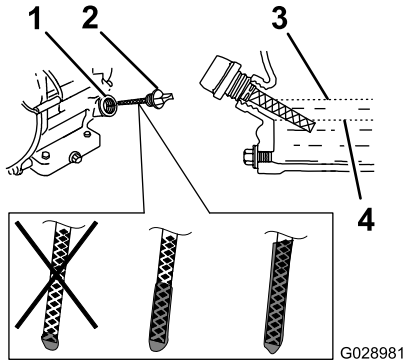

Figure 47
- Remove the dipstick (Figure 47) and slowly pour oil into the fill hole until the oil reaches the upper-limit mark (bottom edge of the oil-fill hole) on the dipstick.